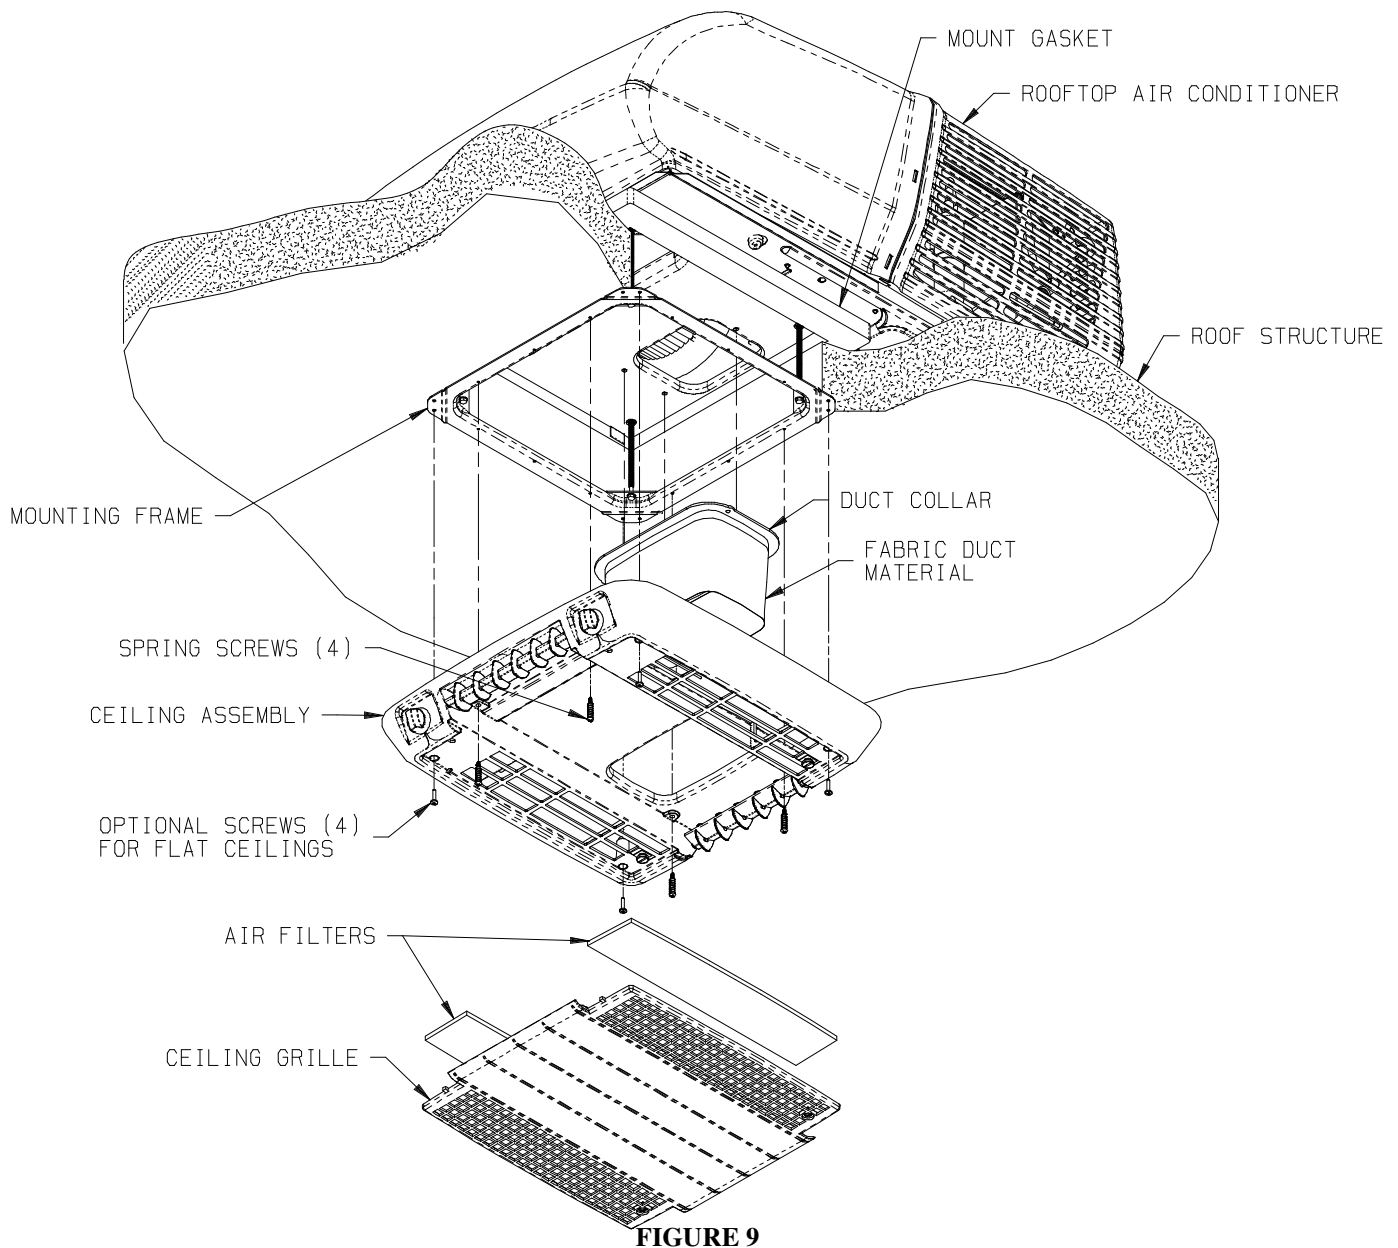

FIGURE 9
- C. Fasten the duct collar to the basepan of the air conditioner with three (3) screws (See Figure 9).
- H. Raise the ceiling assembly and secure to the mounting frame with 4 provided shoulder screw/spring assemblies. The front two screws should pass through the clearance holes in the metal control box shield (See Figure 9).